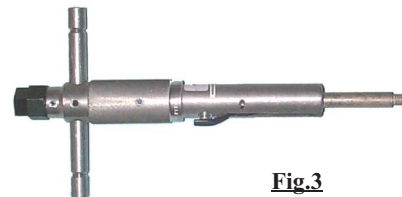

Fig.3
Step 2. Insert the probe into the tool by depressing the spring loaded lever (C), this will allow the probe to enter the tool cavity. Align the probe hole with the tool lever pin and insert the probe until the probe hole and pin are in alignment. Release the spring loaded lever (C) as in (Fig. 3). *Be careful not to dirty or damage the arc-quenching material on the probe.*
Step 5. Depress the spring loaded lever (C) and carefully remove the tool from the probe.